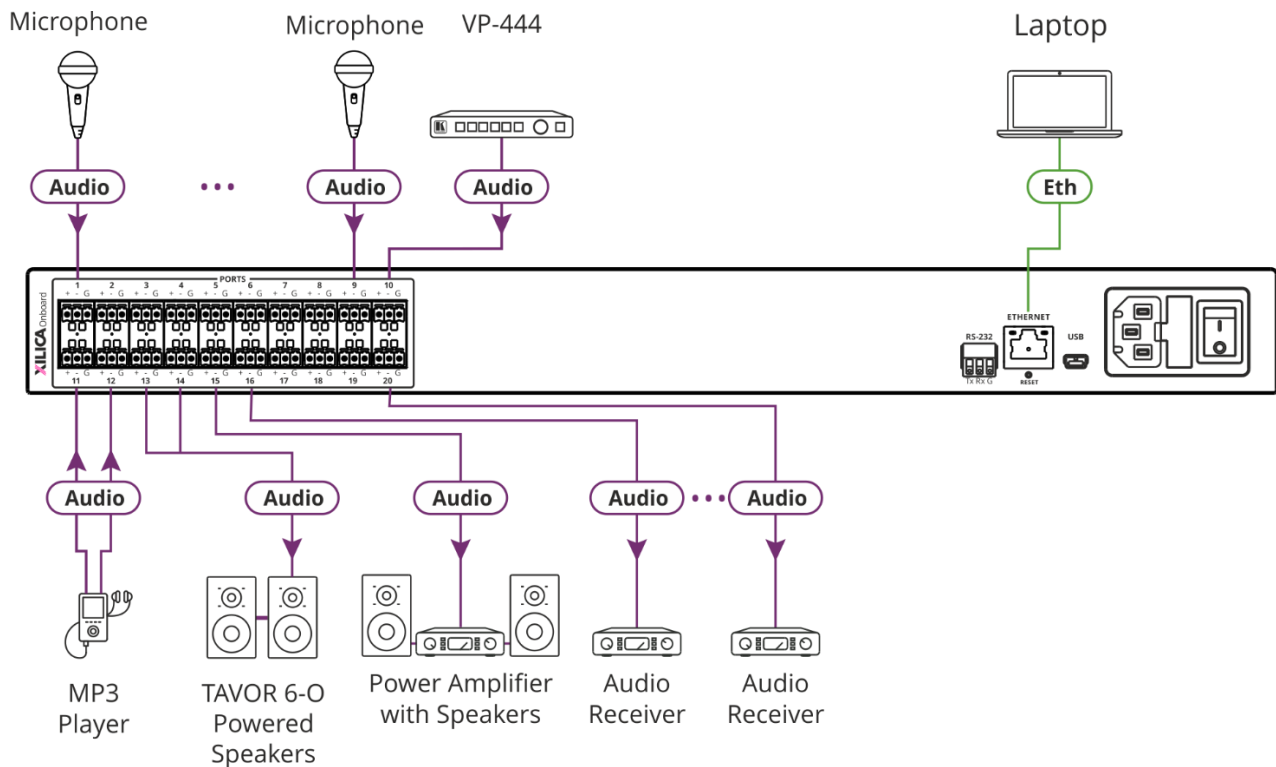

Figure 6: Connecting to the AFM-20DSP-LE Rear Panel
To connect **AFM-20DSP-LE** as illustrated in the example in Figure 6:
- Connect the PORT balanced mono 3-pin terminal block connectors (7) (port I/O is set to 12x8 in this example) to the following audio acceptors:
- Connect the RS-232 3-pin terminal block connector (14) to the RS-232 port on a controller (for example, a laptop) to control the **AFM-20DSP-LE**.
- Connect the ETHERNET RJ-45 port (15) to the Ethernet to control the **AFM-20DSP-LE** and use for firmware upgrade.
- Connect the mini USB connector (16) to a control device (for example, a laptop) to control the **AFM-20DSP-LE**.
- Connect the power cord to the **AFM-20DSP-LE** mains socket (18) and to the mains electricity (not shown in Figure 6).